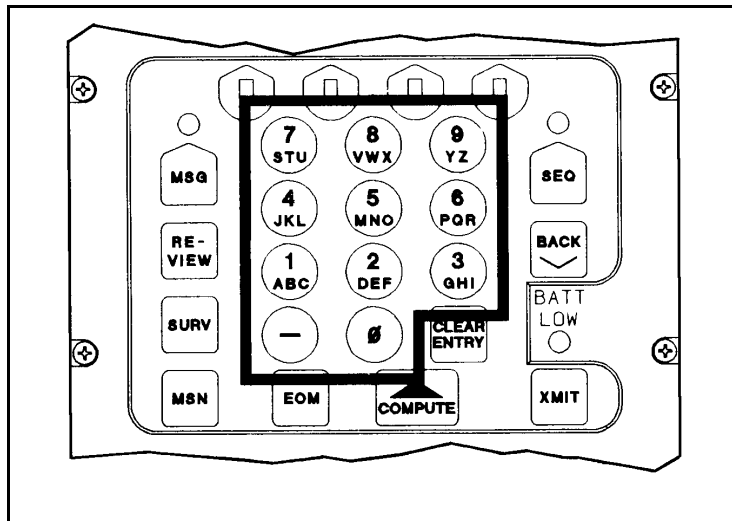

Figure 6-4. Alphanumeric and minus sign keys.
c. **Keys** (Figure 6-4). Eleven keys are used to enter alphabetical (alpha) or numerical (numeric) characters and minus sign. Alpha or numeric selection for combination keys is either automatic or menu-selectable.